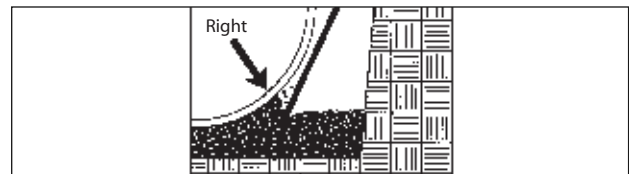
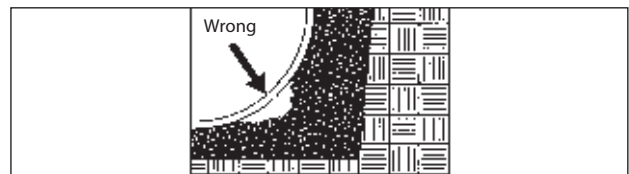

FIGURE 9-1
FIGURE 9-2
9.2.10. Place one 12-inch lift of approved backfill material evenly around the tank. From the edge of the hole or the top of an adjacent tank, push the backfill in place by using a nonmetal probe long enough to reach beneath the tank. Work the backfill material under the tank body and domes so the tank is fully supported – that is, so there are no voids under the tank. (See FIGURE 9-1 and FIGURE 9-2.)